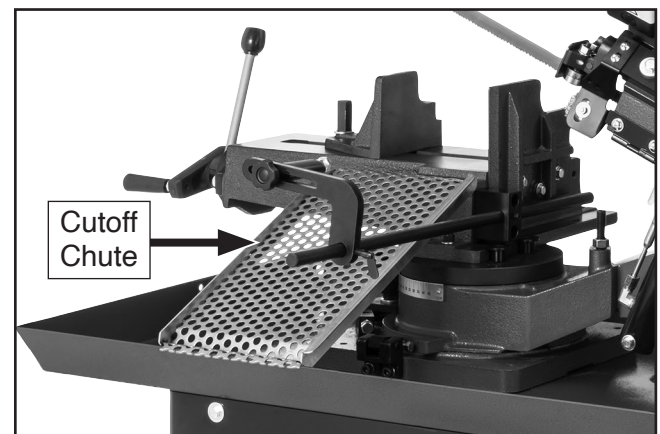

Figure 28. Cutoff chute installed.
11. Install cutoff chute by placing V-shaped end on edge of chip pan and resting other end on vise table (see **Figure 28**).